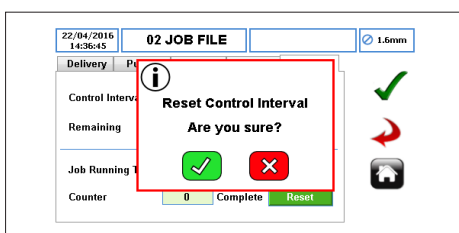

Figure 38 Reset Control Interval
3. RESET ICON – resets the remaining number of hours for control interval. Once the icon has been selected, the user will be prompted as per Figure 38.